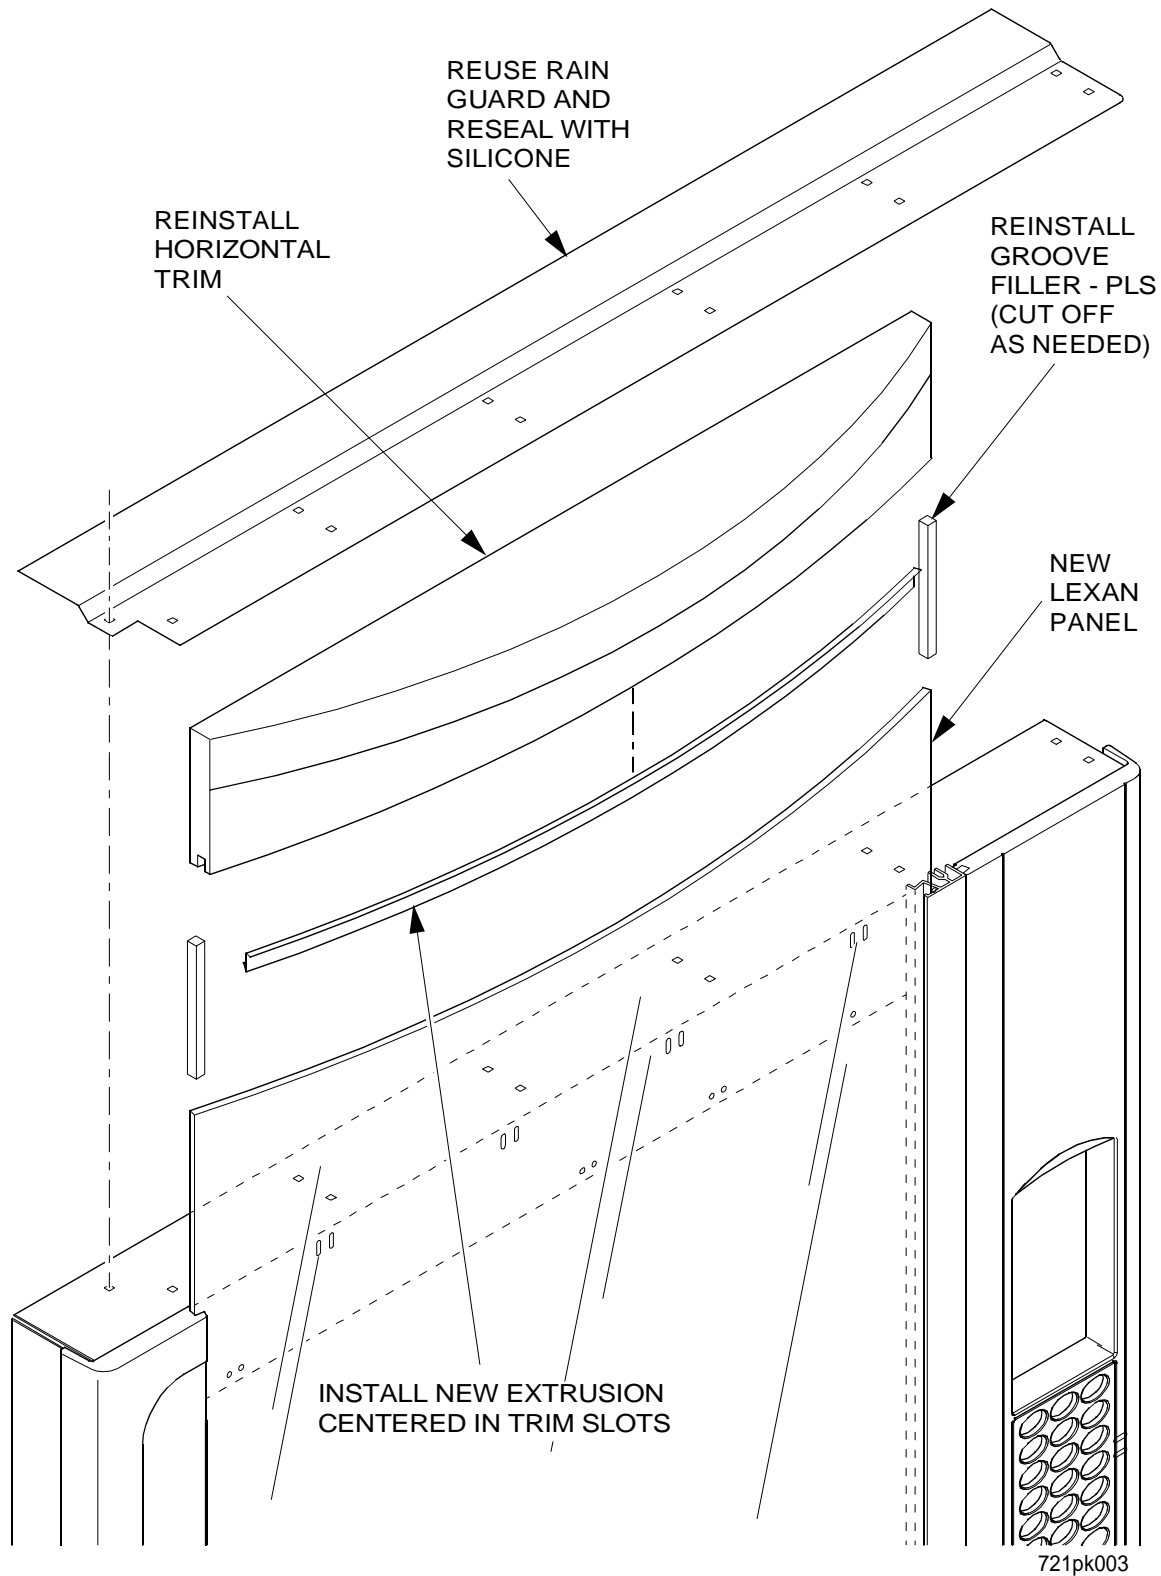

Figure 4
9. See figure 4. Install the groove fillers you removed earlier.